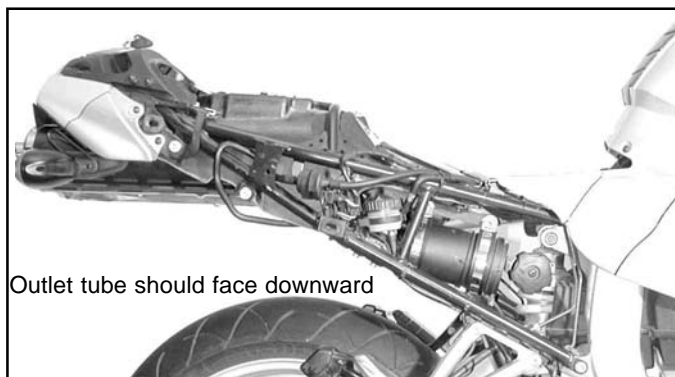

Figure 12
7. Adjust the Canister in the straps so the outlet tube points downward. Tighten the strap screws and nuts to 7Nm (5.1 ft. lbs.) See figure 12.